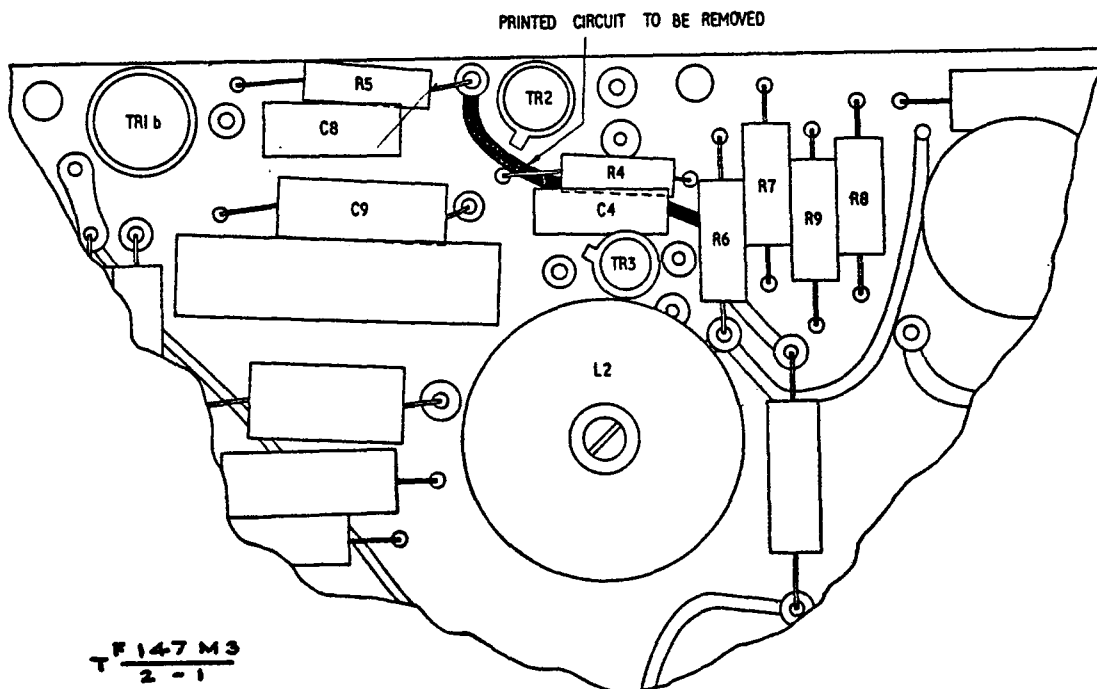

Fig 1 - Wiring changes, top of panel
- d. Using a sharp knife remove the printed circuit as detailed in Fig 1 and 2, taking care not to damage any neighbouring printed circuit or components.
- f. Ensure that the figure 1 is painted through, without obliterating, on the modification label of the Panel electronic circuit (board 5).
d. Strike through the figure 1 on the modification record plate of board 21.